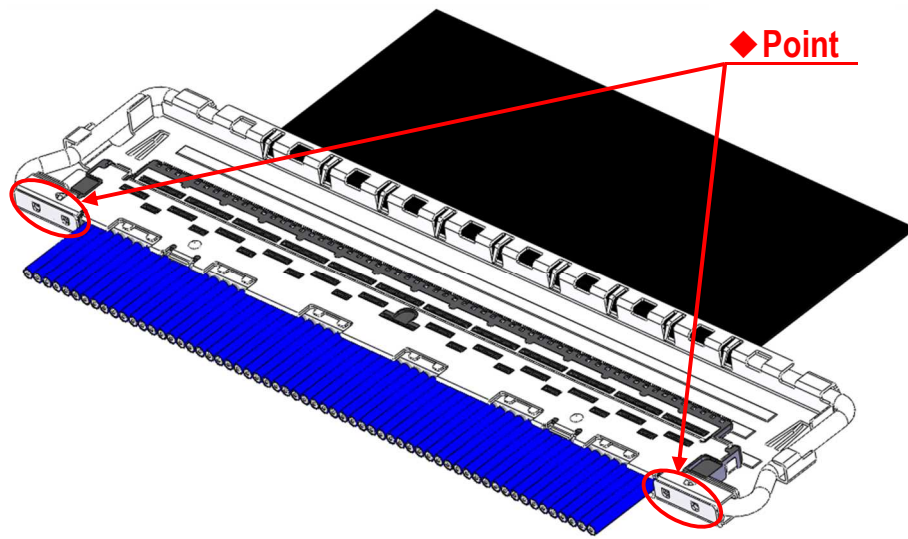

Fig.11 Soldering of SHELL-A and SHELL-B
- ④ Soldering SHELL-A and SHELL-B with the soldering iron at all designated points is recommended. (Fig.11 ◆point)